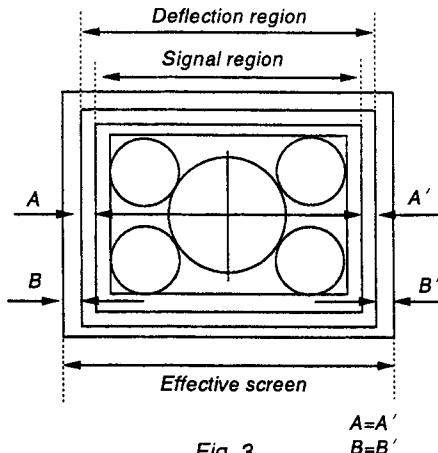

Fig. 3
7. Adjust [60 VIDEO PHASE] so that the signal region comes to the center ($A=A'$) of the deflection region. (Fig. 3)